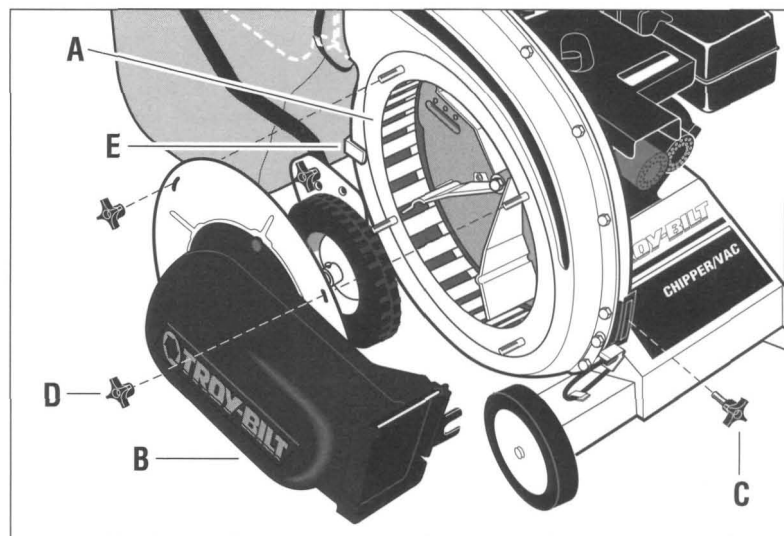

Figure 4-6: Shredder screen (A), fan cover assembly (B), attachment knobs (C and D), and fan cover retaining bracket (E).
The standard, 1-1/8" slotted shredder screen (A, Figure 4-6) is factory-installed inside the processing chamber. A 3/4" slotted screen is an option. The size of the slots help determine how finely the material is shredded (see "Shredder Screens," Page 16).
3. Remove the fan cover (B, Figure 4-6) by loosening the single knob (C) at the front of the cover and then removing the four knobs (D) on the side of the cover.
3. Insert the fan cover behind the fan cover retaining bracket (E, Figure 4-6) and install the fan cover on the four studs. Rotate the fan cover clockwise, making sure the mounting bracket at the front is aligned with the front knob (C, Figure 4-6).
4. Loosely reinstall the four knobs (D). The cover can be adjusted a short distance up or down (see "Adjusting the Vacuum Inlet Height" on Page 22). After making any adjustments, securely tighten the four knobs, followed by the single knob (C).